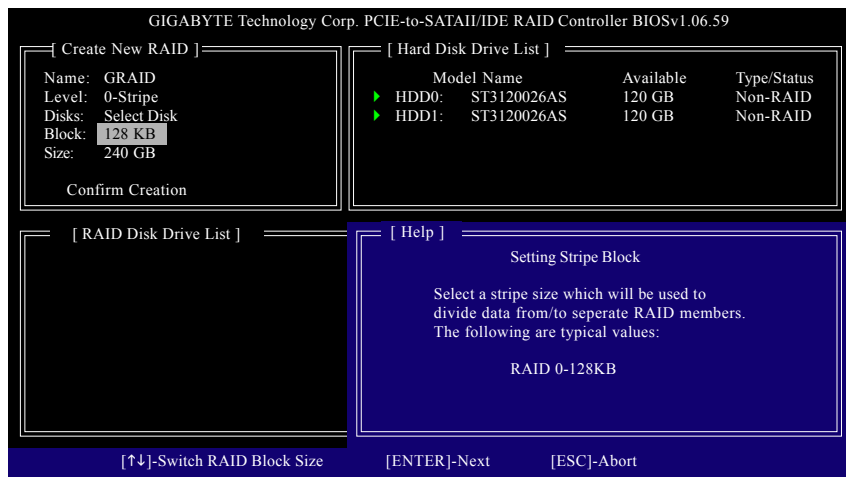

Figure 6
- 4. Set Strip Size (RAID 0 only):** Under the **Block** item, use the up or down arrow key to select the stripe block size (Figure 6), ranging from 4 KB to 128 KB. Press <Enter>.